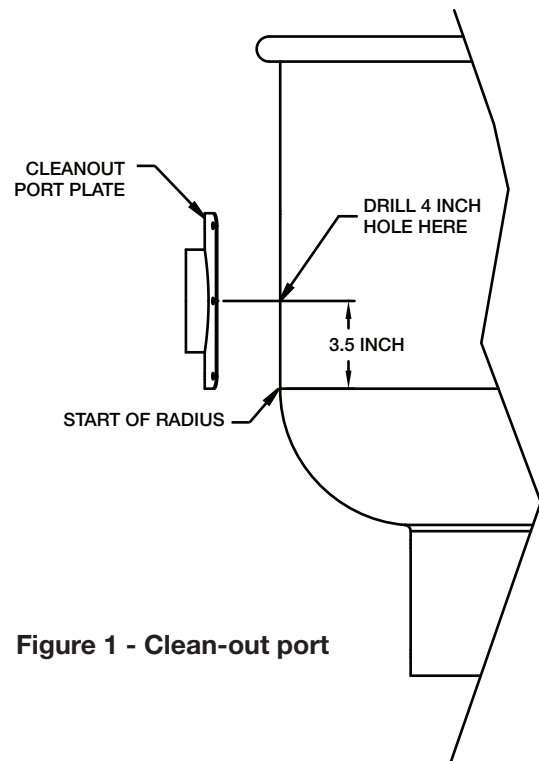

Figure 1 - Clean-out port
2. Locate and mark mounting position. Clean-out port should be mounted 90 degrees left or right of drain connection. Refer to Figure 1 for drilling location.